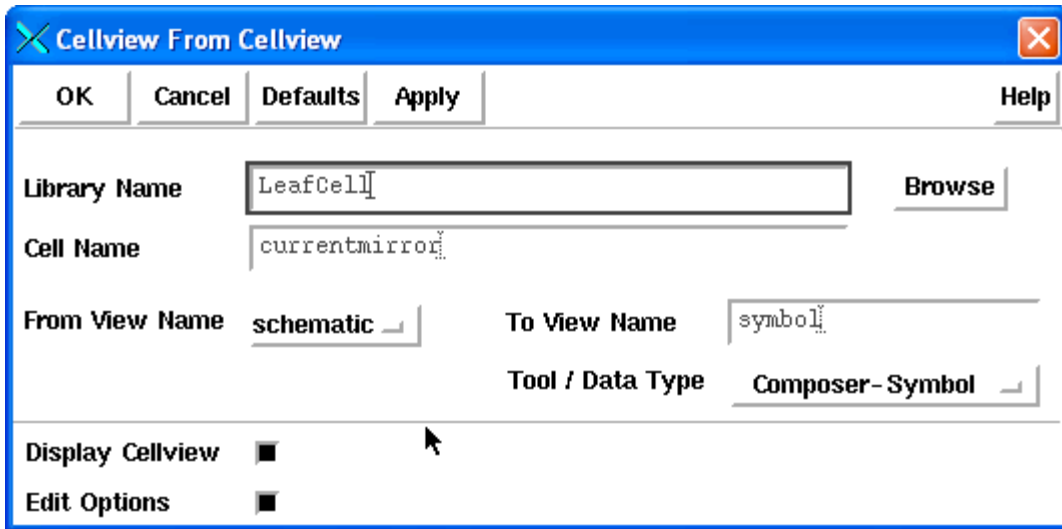
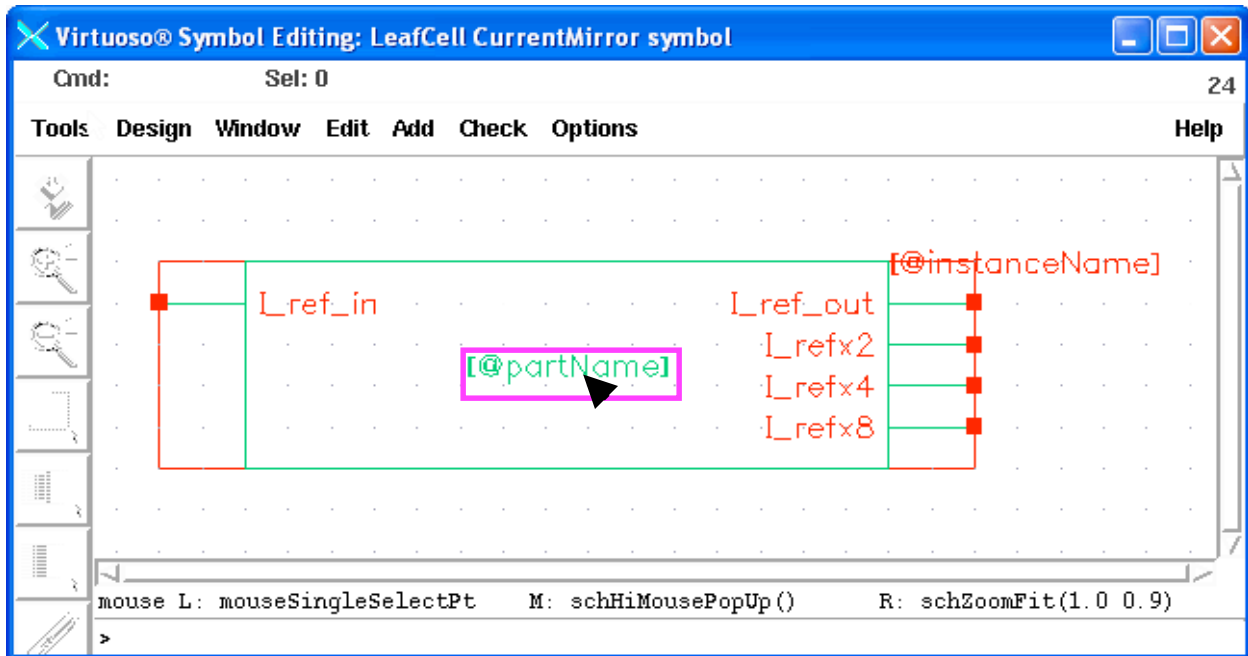

Figure 33: The Cellview From Cellview Window.
Figure 34: CurrentMirror Symbol created by the system.
2. The *Cellview From Cellview* window will pop-up as in Figure 33. Click *OK*. The *Virtuoso Symbol Editing* window should appear with the symbol made by the system (Figure 34).